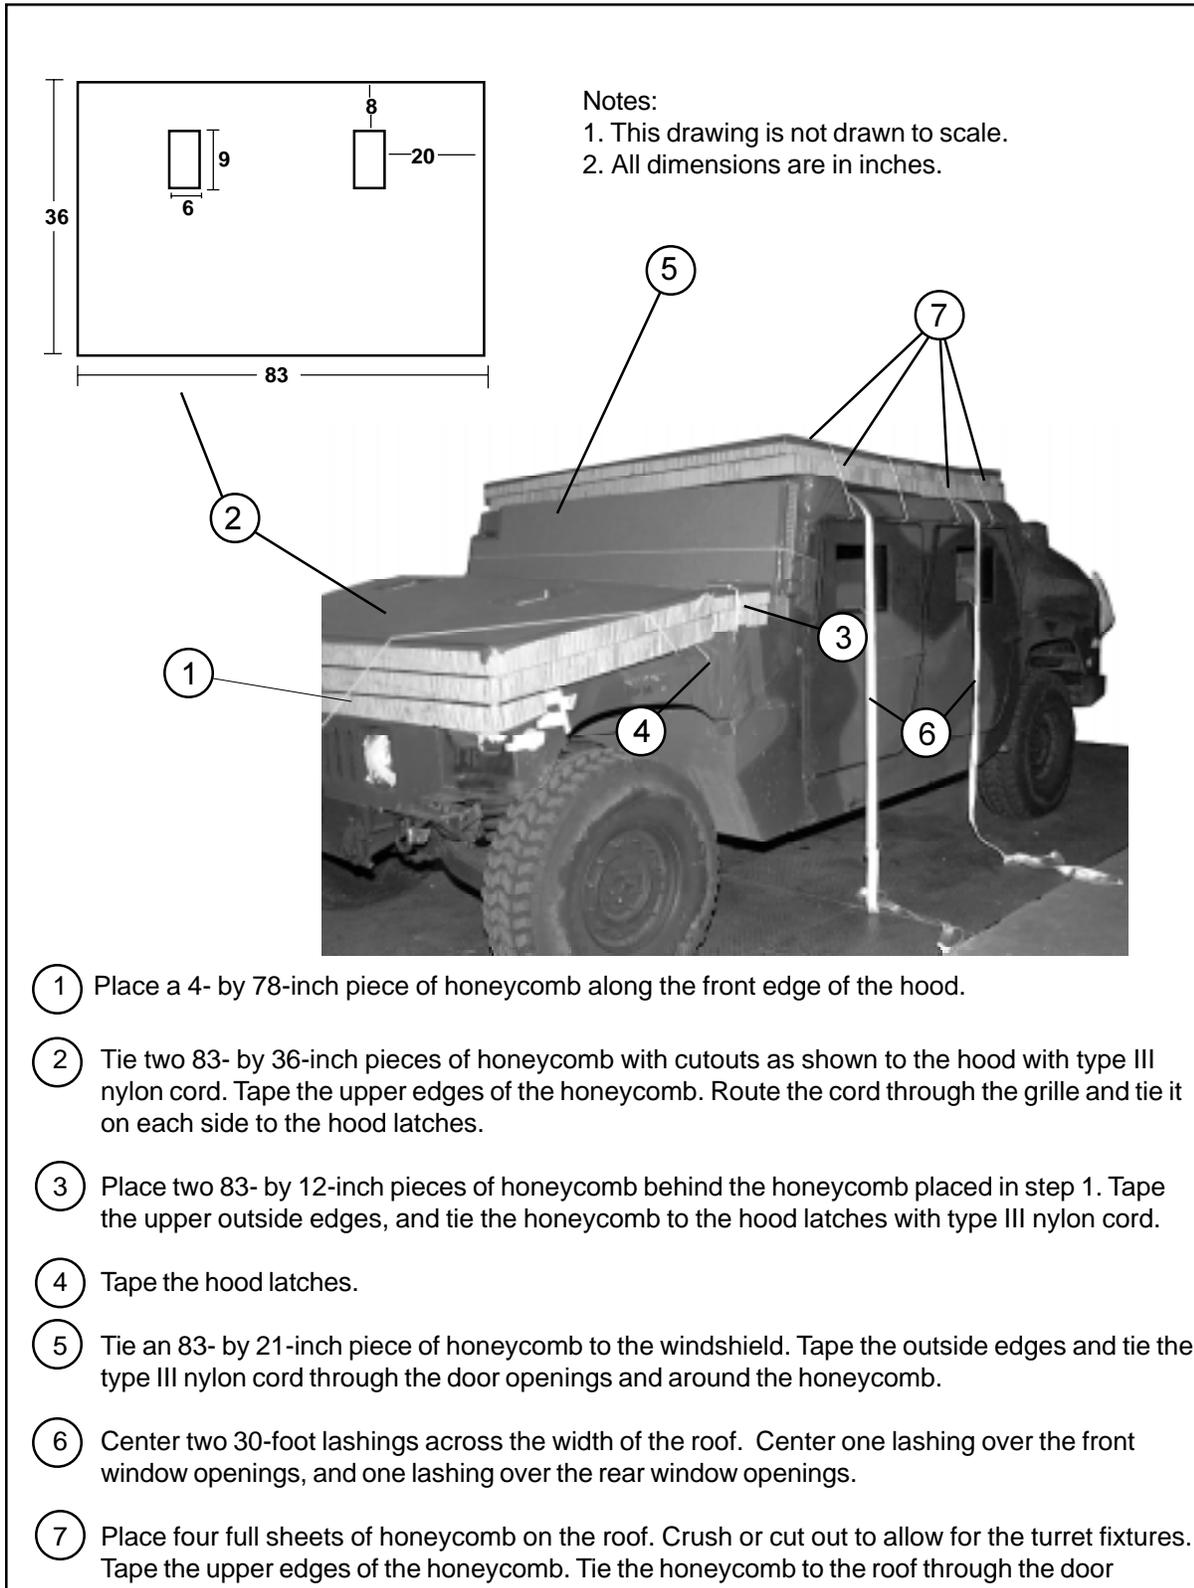

Figure 4-23. Hood and Roof Covered
- d. Prepare the hood and roof of the truck as shown in Figure 4-23.